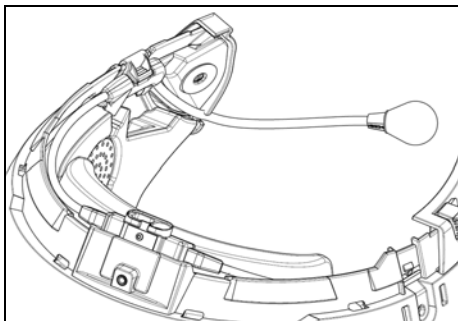

Fig. 5
- Position the microphone in the housing on the left of the helmet, inserting the metal boom in the groove found in the chin guard coupling frame (Fig. 5).